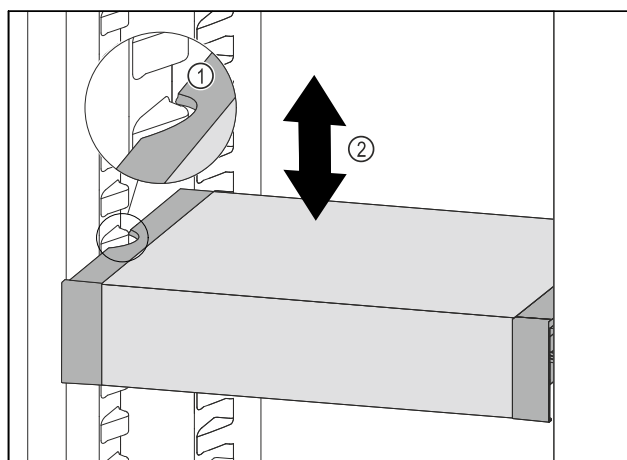

Fig. 126
- Pull VarioSafe forwards until the recesses in the side of the VarioSafe are at the level of the support rib in the refrigerator compartment. Fig. 126 (1)
- Move VarioSafe up or down in the refrigerator compartment until the desired height is reached. Fig. 126 (2)